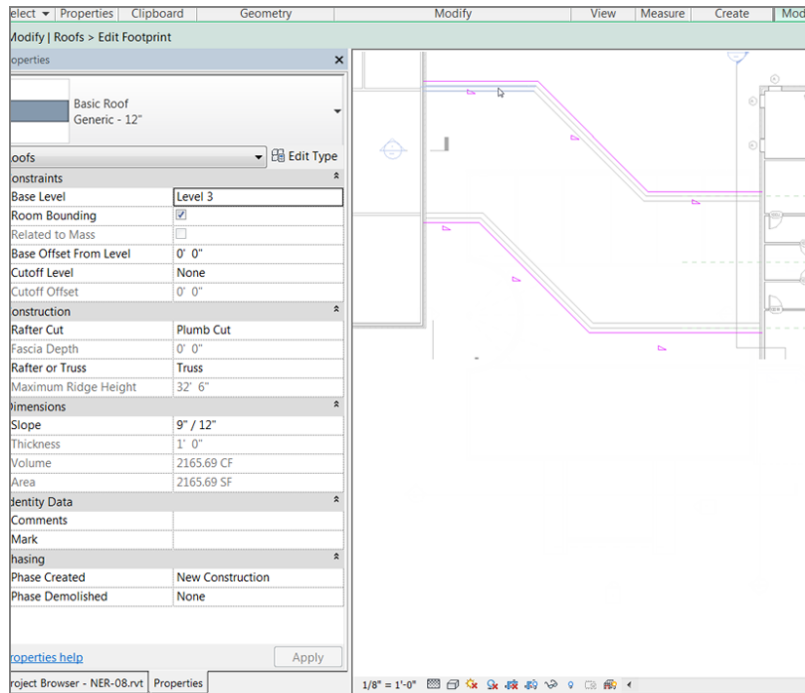

FIGURE 7.23: Pick these walls for the roof's footprint.
6. Pick the six walls that compose the corridor, as shown in Figure 7.23.